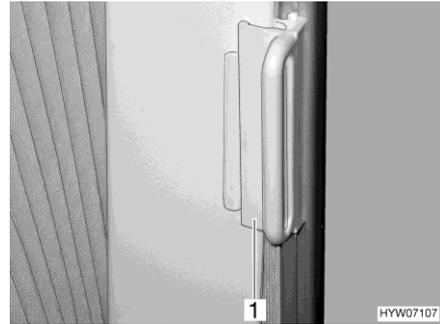

Fig. 33 Lock for Roman shade
- Securing: ■ Push the handle (Fig. 33,1) onto the cap. The Roman shade is secured.